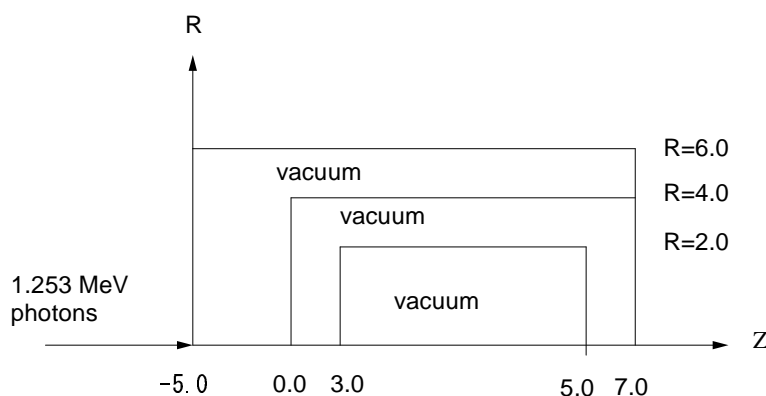

Figure 1: Geometry of `ucsource.f`
The geometry used in `ucsource.f` is cylindrical with cg, as shown in Fig.1. All regions are set to vacuum (0) to test the source. A 1.253 MeV photon pencil beam enters the cylinder from $Z=-5\text{cm}$ along the Z -axis.